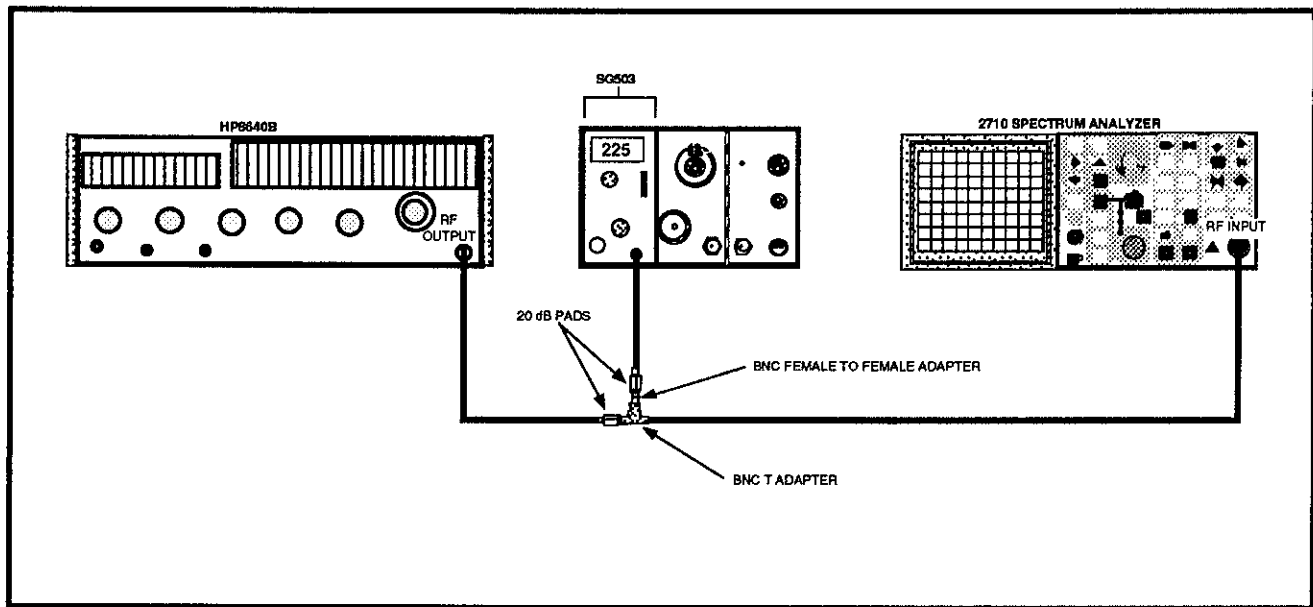

Figure 3-1. 3rd Order IM (25 MHz Separation)
a. Connect the test equipment as shown in Figure 3-1.